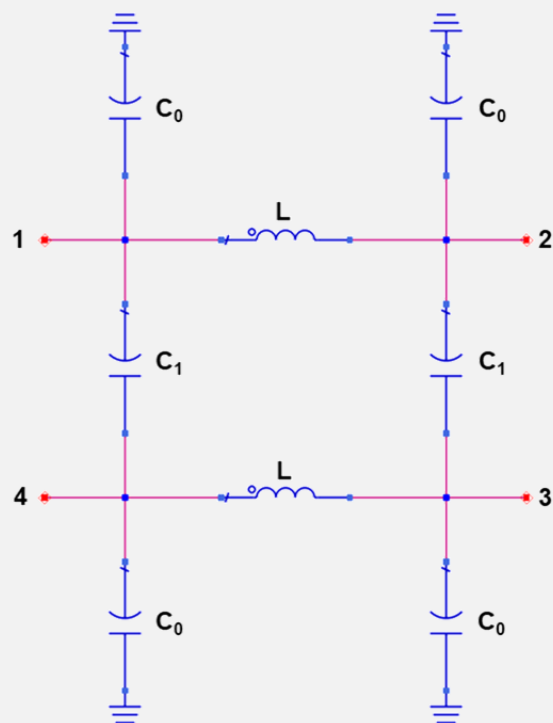

Figure 2. Lumped element model
The basic design of the lumped element model is shown in Figure 2. Calculate the values of the capacitances ( $C_0$  &  $C_1$ ) and inductances (L) using the following formulas: